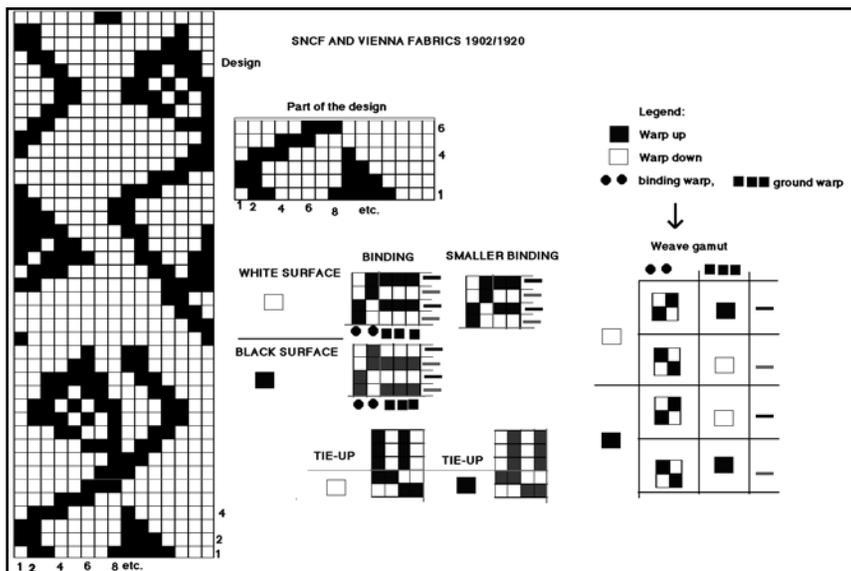

Fig. 4: SNCF and Vienna Fabrics 1902-1920
First of all, design all the technical possibilities on one sheet of paper. The design, the weave gamut, tells you what the warp(s) is/are doing with the weft(s), the profile and the bindings. That is a real help and is shown in *Figure 4*.
How to read the new design (*Figure 4*) for the tie-up?
1. Take the technical page with the design called “a part of the design,” shown in *Figure 4*. The black squares in the “part of the design” need the binding called “black surface-colour.” The white squares in the “part of the design” need the binding called “white surface-colour.”